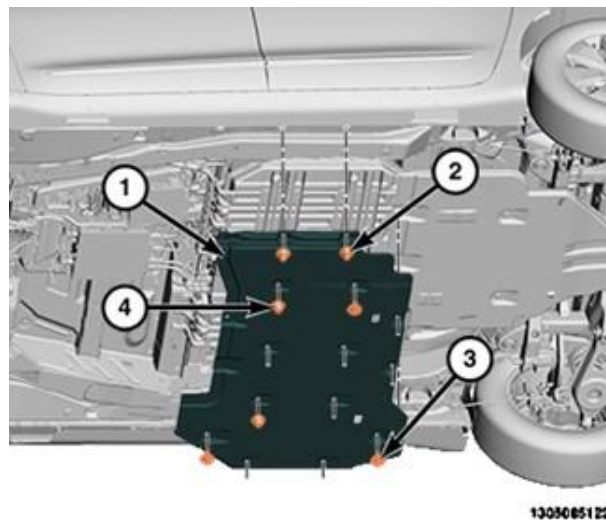

Figure 34 – Battery Belly Pan
49. Remove the fasteners (2, 3, 4) from the battery belly pan (1) then remove the battery belly pan (Figure 34).